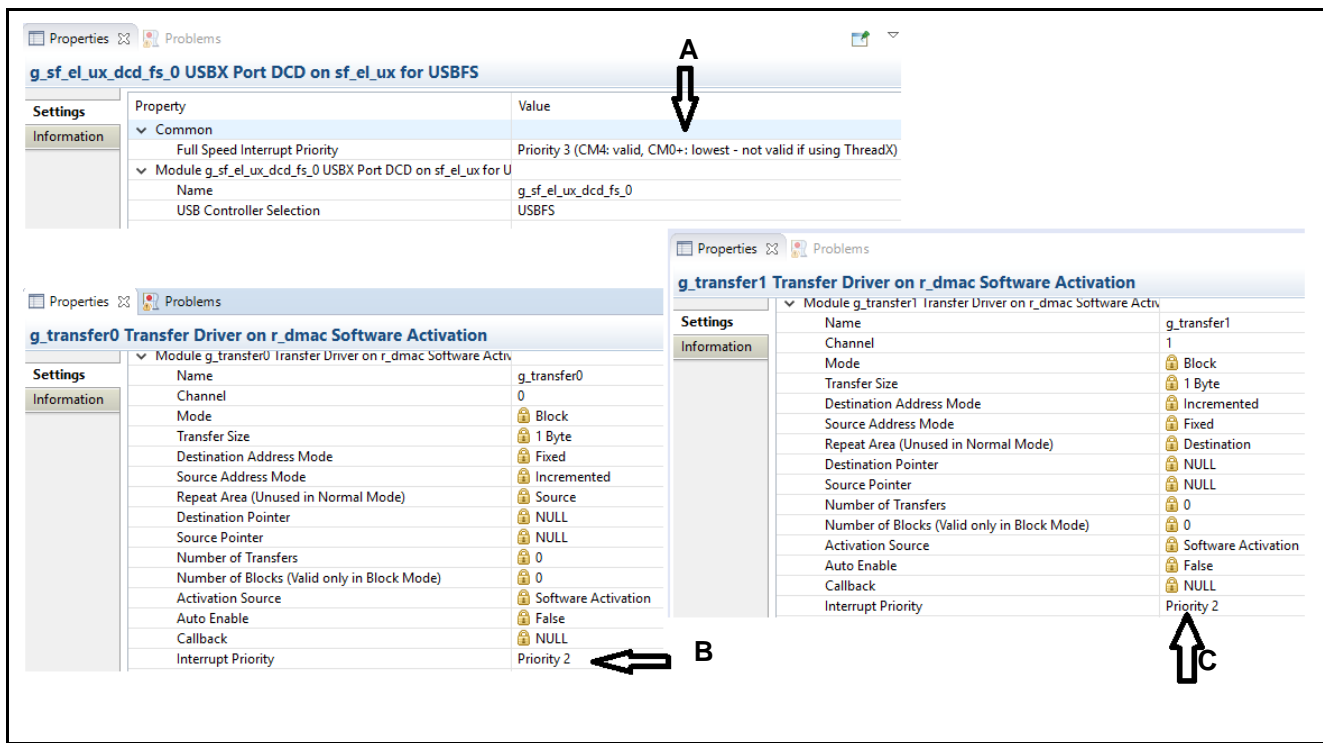

Figure 11. USBX Module Properties
7. Refer to **Figure 11** as you select the following USBX module properties: